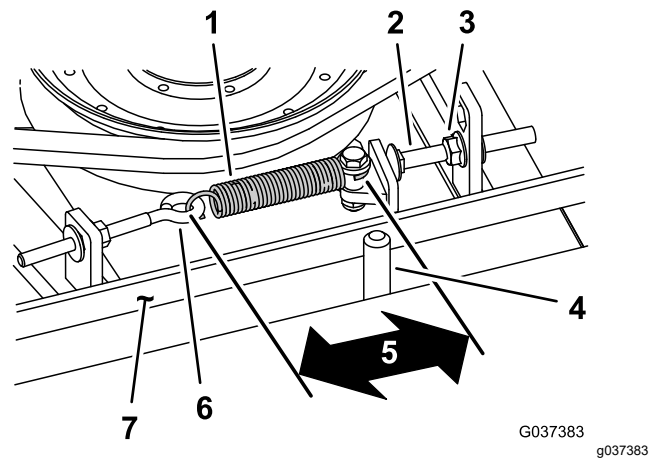

Figure 83
When properly tensioned, the inside measurement of the extension spring (hook to hook) should be approximately 8.3 to 9.5 cm (3-1/4 to 3-3/4 inches). Once the correct spring tension is attained, adjust the stop bolt (carriage bolt) until there is approximately 2 to 5 mm (0.065 to 0.185 inch) clearance between the head of the bolt and the idler arm (Figure 83).
Note: Ensure that the belt is positioned on the spring side of the belt guide (Figure 83).
2. Loosen the eye bolt (Figure 83).
3. Loosen the flange nut securing the stop bolt to the mounting tab and move the idler pulley away from the belt (Figure 83).
9. Connect the extension spring (Figure 83) to the eye bolt and tension the belt as follows: